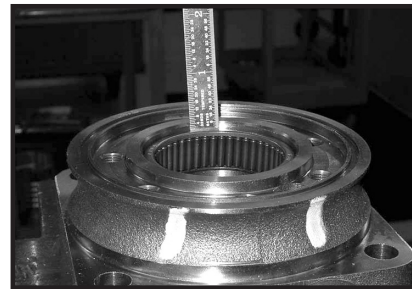

Figure 25
NOTE: The depth or location of bearing (13) in relation to the housing wear plate surface and the depth or location of bearing (19) in relation to the beginning of bearing counter bore should be measured and noted before removing the bearings. This will facilitate the correct reassembly of new bearings. SEE FIGURE 25.